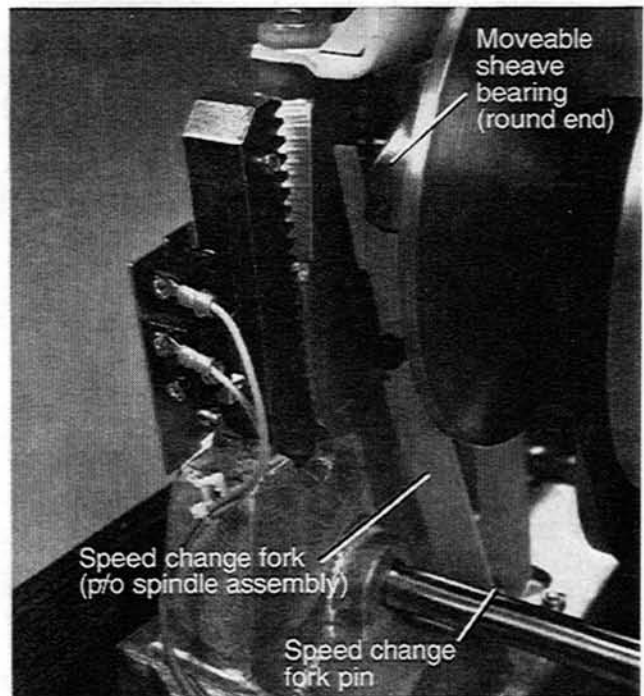

Figure 3-17. Speed Change Mechanism
15. Pull the spindle assembly to the left until it clears the headframe, then lift it from the headframe (Figure 3-17 on page 3-9).
2. Align the speed change fork with the pin on the base of the headframe, then insert the spindle bearing into the bore provided in the headframe (Figure 3-17 on page 3-9.)
bearing cap into the fork on the speed change spindle assembly. The rounded end of the cap faces *pp* (Figure 3-17).